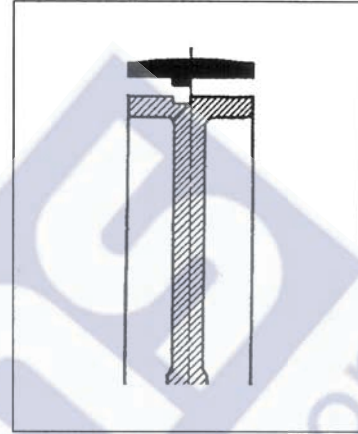

Fig. 16-1 Reference tooth
- the seal has a reference tooth which must be housed in the special ring groove on the face of the flywheel. This groove is not symmetric, but shifted forwards. It is therefore necessary to position the seal in the right sense (see fig. 16-1);